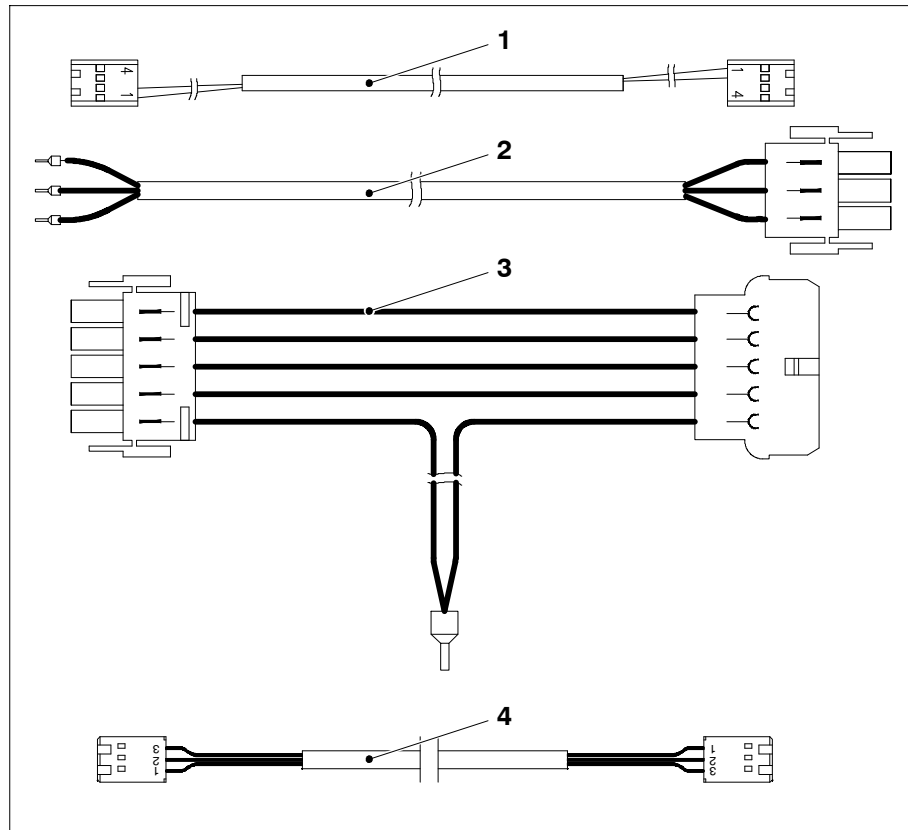

Fig. 2 Connector cables delivered with the LRM 1218 solar charge regulator
- ▶ 1. Connect the electroblock with cable X (connection cable EBL ... (charge currents for batteries), Fig. 2, Pos. 2).
- ▶ 2. Connect the electroblock with cable Y (signals for display of charge currents on DT ... / LT ..., Fig. 2, Pos. 1).